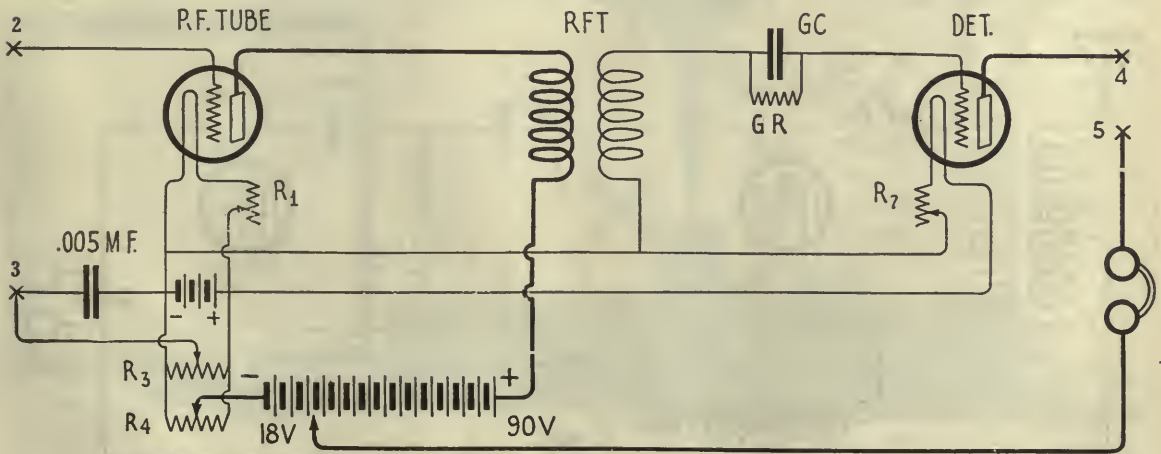

FIG. 1
PROVIDED with a circuit of the type shown in Fig. 1, it is possible for us to obtain many interesting and satisfactory results from almost any of the more common forms of receivers.
To begin with, the single-circuit receiver used in conjunction with Fig. 1, may be regenerative or non-regenerative, depending upon what is used to connect X^4 and X^5 . For simplicity of operation, the non-regenerative method may be used, but where long distance and greater selectivity are sought, regeneration is helpful. If a short piece of wire connects X^4 and X^5 , the regenerative action of the detector tube is not brought into play, but a variometer or the tickler coil of the common single-circuit regenerator inserted between these two points will, on the other hand, take advantage of re-
1. The great distance that is possible with a single tube. *A score of contestants have heard stations more than 1,500 miles away*, while 1,000-mile reception is common. A dozen or so report an aggregate mileage of more than 50,000 (the record is 111,240 miles, made by Russell Sheehy. His circuit is given in Fig. 1), and many have identified more than sixty different broadcasting stations!